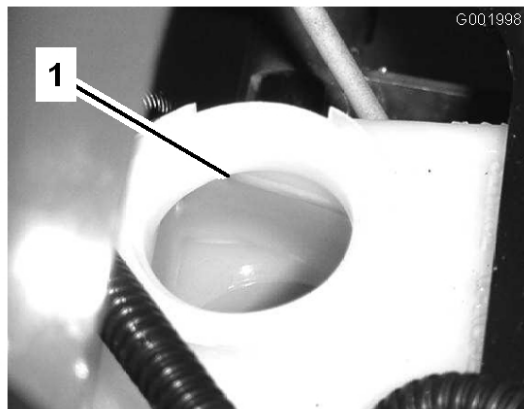

Figure 62
2. The fluid level should be up to the Full line on the reservoir (Figure 62).